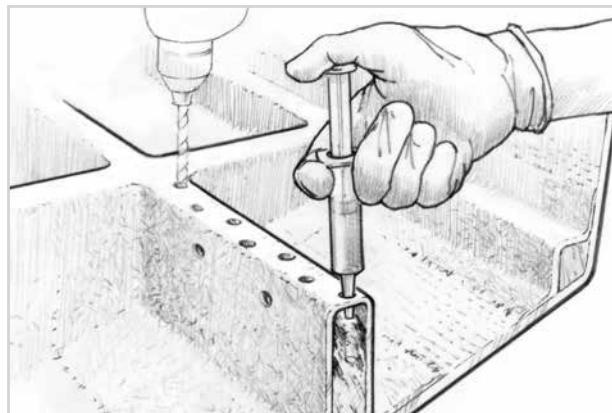

Figure 3-2 Inject or pour resin/hardener mixture into the holes when the core is dry and while the core is warm.
3. Inject or pour resin/hardener mixture into the holes while the core is warm (Figure 3-2). Epoxy, warmed by the core, will become thinner and penetrate more deeply into the exposed end grain. 206 Slow Hardener should penetrate more deeply than 205 Fast Hardener before it begins to gel.